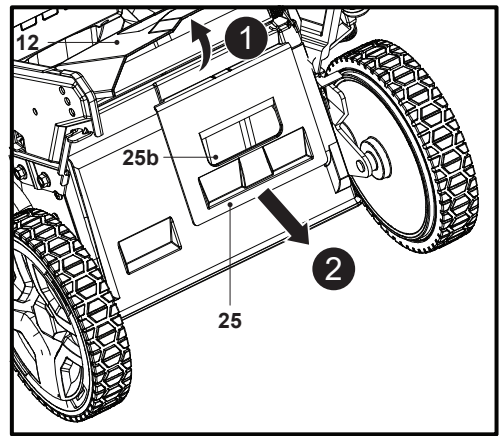

Fig. 15
2. Hold the recess handle (25b) and pull the mulching insert (25) out of the rear discharge chute (23), then remove the mulching insert (25) (Fig. 15).